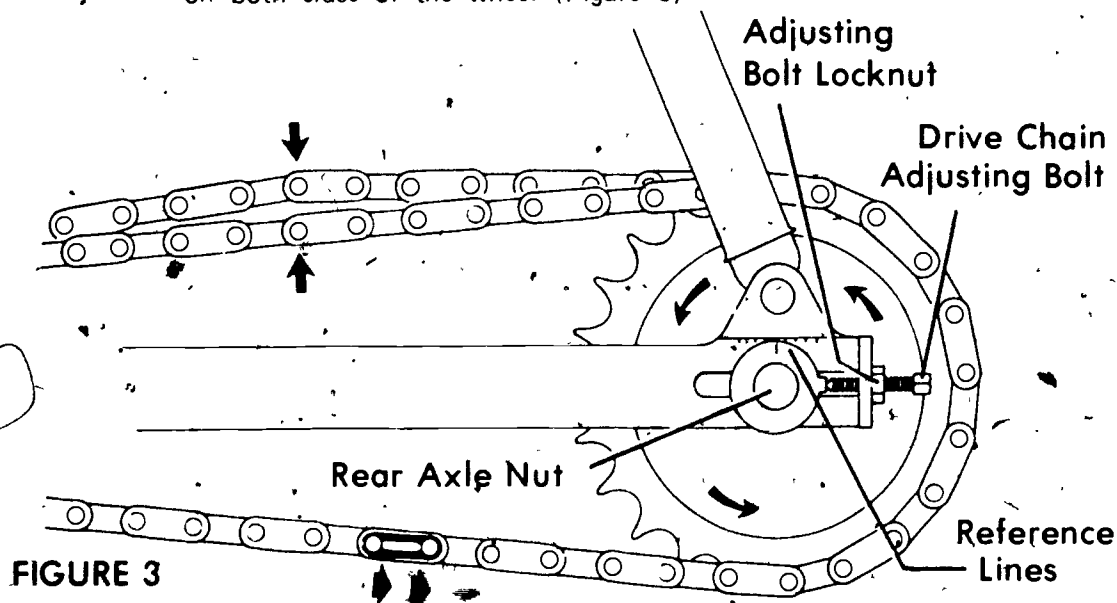

FIGURE 3
- C. Turn both adjusting bolts an equal amount to maintain correct alignment; if reference marks are present, be sure the same marks are in alignment on both sides of the wheel (Figure 3)